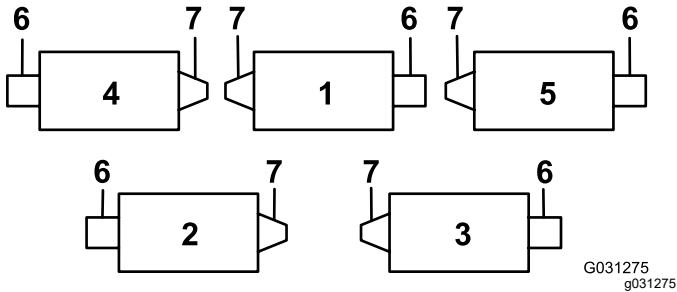
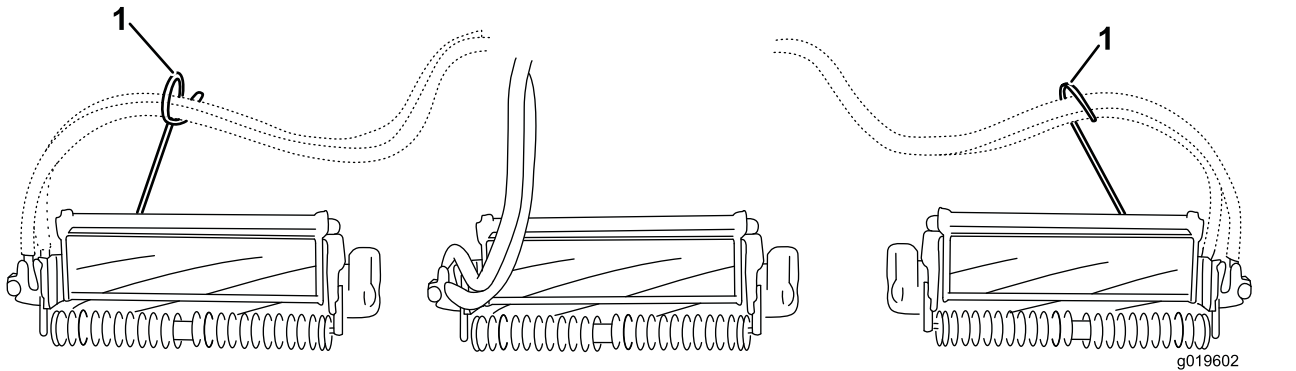
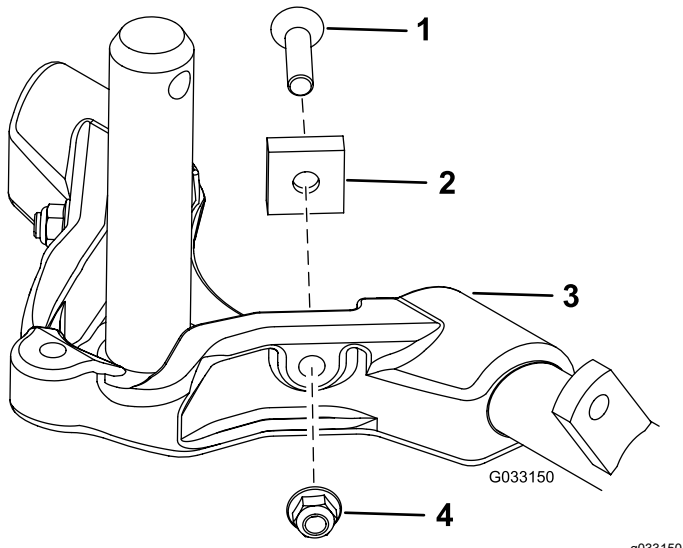

Figure 12
Figure 14
Figure 15
Important: On Cutting Unit 4 (left front) and Cutting Unit 5 (right front), use the rod-bracket mounting nuts to install the hose guides to the front of the cutting-unit tabs. The hose guides should lean toward the center cutting unit (Figure 12 through Figure 14).
- Increase the steering on the rear cutting units by removing the 2 pivot spacers, hex-socket screws, and flange locknuts (Figure 15) from the carrier frames of the rear cutting units (Cutting Units 2 and 3); refer to Figure 12.